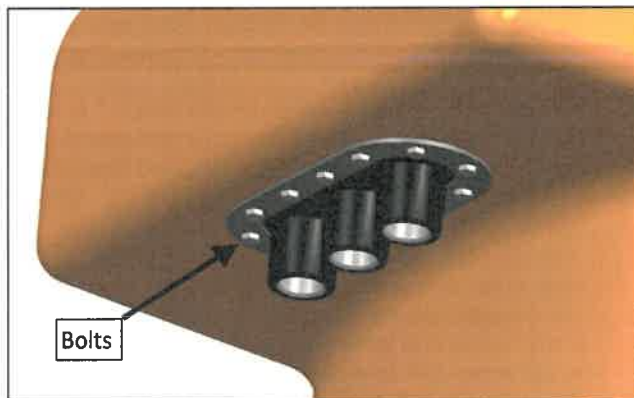

Figure 15
a) Verify torque on external mounting bolts (7/16" socket). Torque to be 60 in-lbs. See Figure 15.